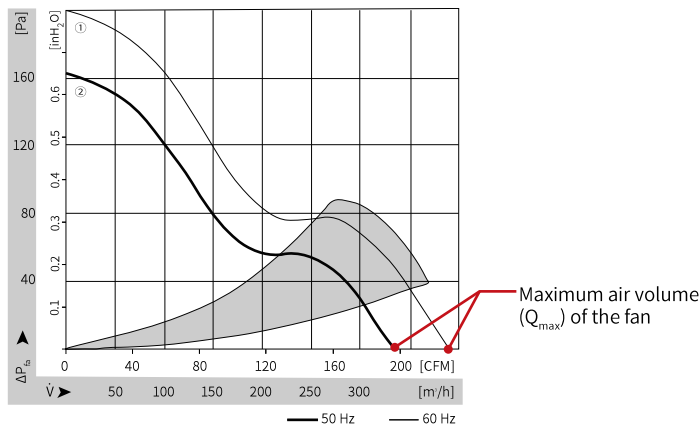

Figure 2-8  $Q_{max}$  of a system fan
*"Figure 2-8  $Q_{\max}$  of a system fan" on page 24* shows typical specifications of the fan air volume.